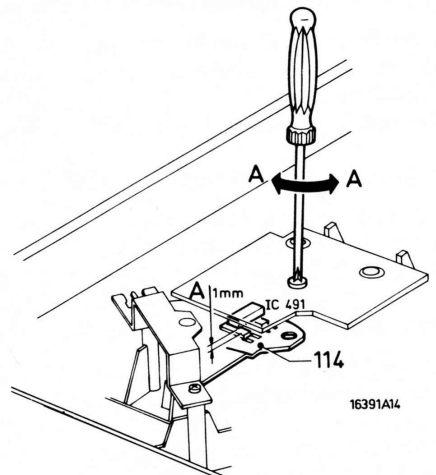

Fig. 5
**2. Adjusting IC491 with respect to magnet (Fig. 5)**
## 2. Instelling IC491 t.o.v. magneet (Fig. 5)